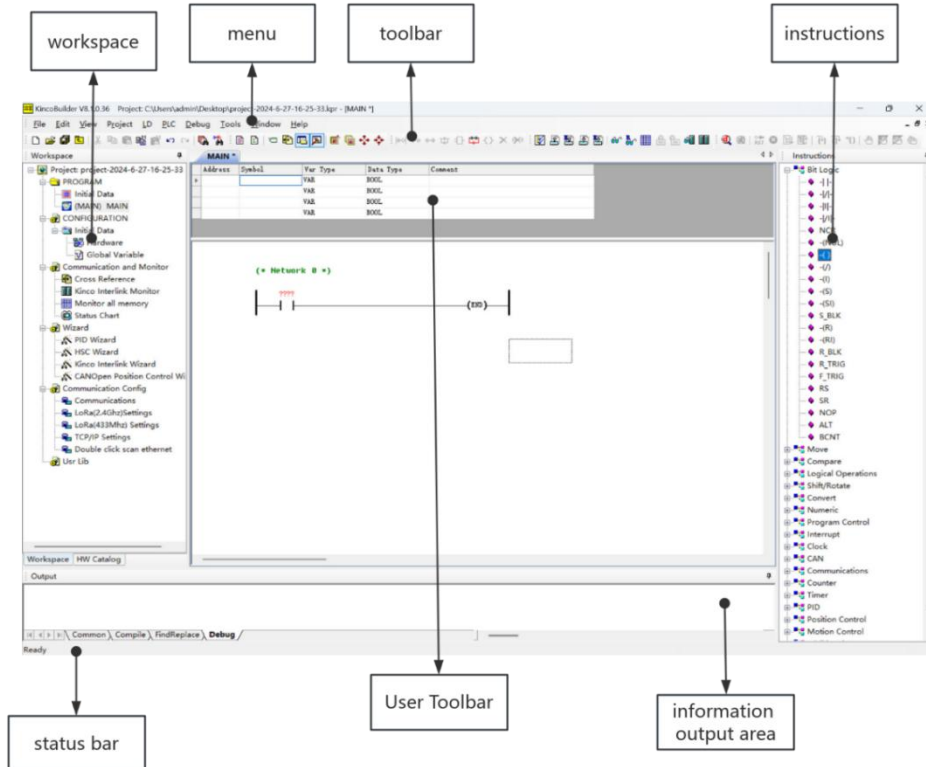

Figure 2-3 KincoBuilder Windows
- **User workspace:** This is the main area used by the user, where the user can open the hardware configuration window, global variable table, editor and other windows to complete tasks such as configuring hardware, declaring global variables, and editing programs. Figure 2-3 shows the editor, including the variable definition table in the upper part of the area and the program editor in the lower part of the area (also divided into LD editor, IL editor)。